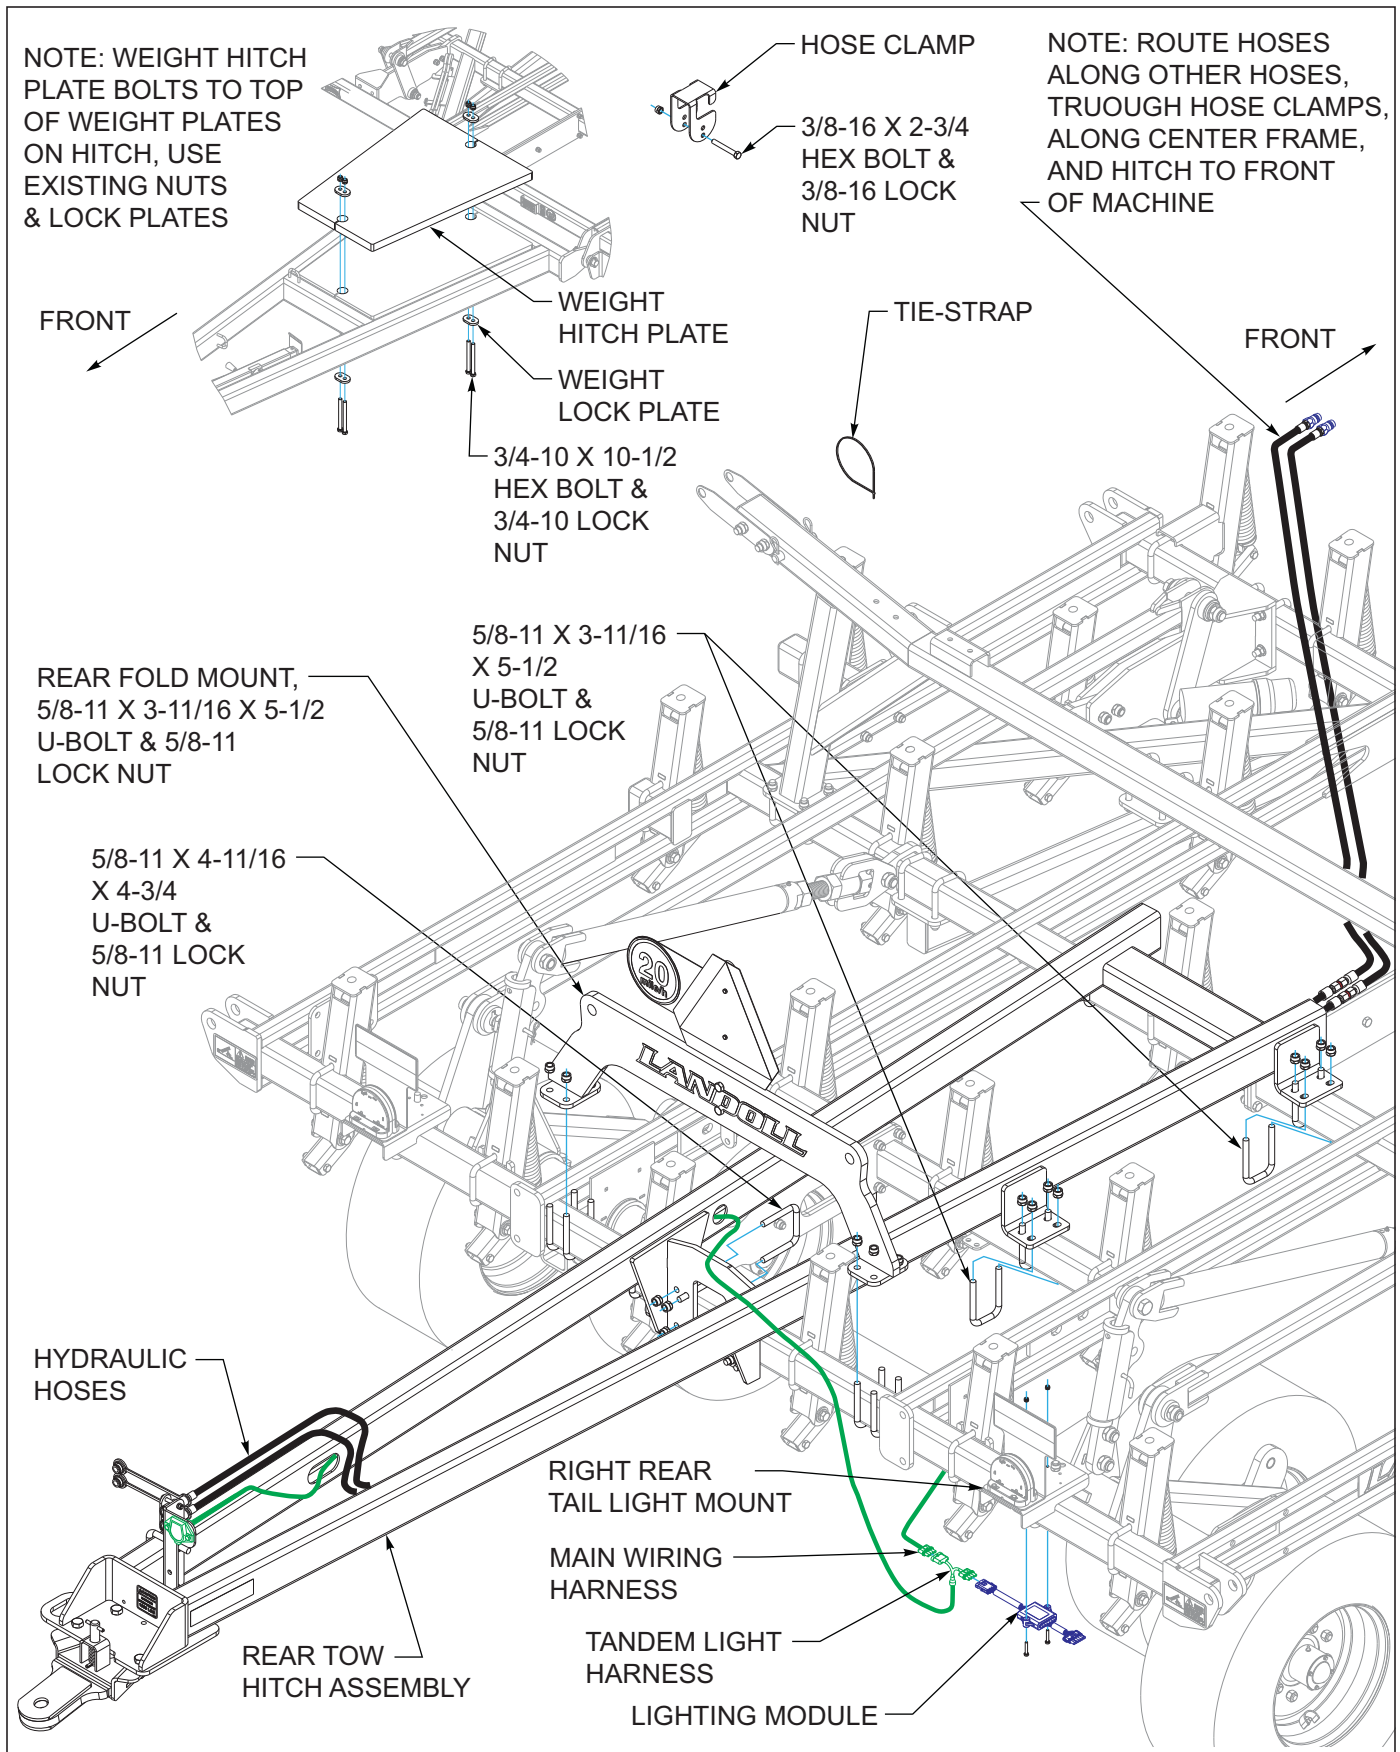

**Figure 3-33: 3 Row Spike Harrow and Reel Installation**
1. Attach the 3 RSD w/spring and 3 RSD w/o spring (**Models 9650FH-38'-42' only**) arm assemblies to the rear tube of the center and wing frames using harrow mounting plates, 3/4-10x5-1/2 hex screws, clamp bushings and 3/4-10 lock hex nut **See Figure 3-33**.
*The harrow arms with the catch tray hooks are used on the outer wings with the catch tray hooks toward the outside of the machine and the catch trays toward the center of the machine. See **Figures 2-43 - 2-54** for 3 Row Spike and Reel Harrow or **See Figures 2-55 - 2-66** 3RSD & flat reel and **See Figures 3-33** for proper placement.*
3. Refer to Note: spike bar alignment **See Figures 3-33** for proper alignment of spike bar assemblies. Be sure they are aligned properly on both right and left side of each section.